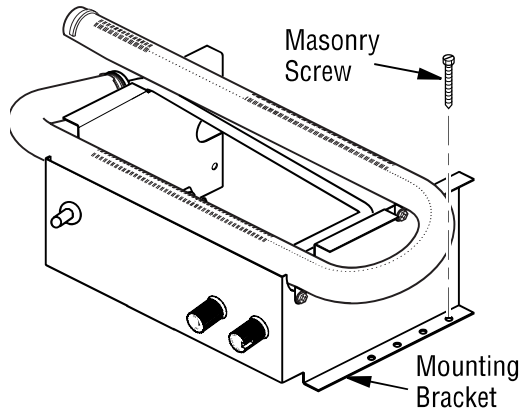

Figure 12 - Attaching Base to Fireplace Floor
7. Mark screw locations through one hole on each side of the mounting bracket (see **Figure 12**, **Page 12**). If installing in a brick-bottom fireplace, mark screw locations in mortar joint of bricks.